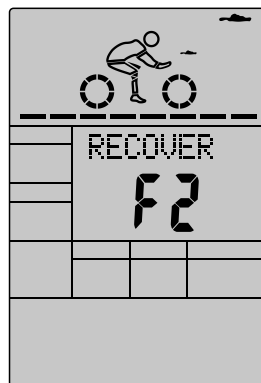

Fig 42
- When it reaches 0, the test result (F1.0-F6.0) appears on the display. (Fig 42)